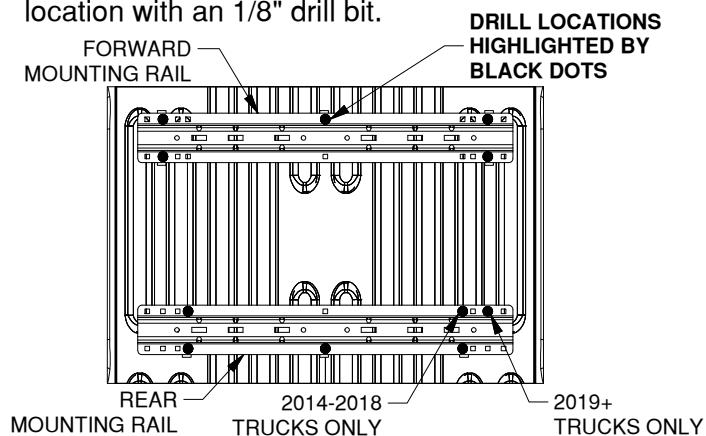

Figure A3: Detail view over bed, showing drill locations for the forward and rear mounting rails.
- Mark hole locations.** While carefully ensuring the mounting rail does not move, use a center punch tool to mark the 5 drill locations on the forward rail. See Figure A3 for hole marking locations for this installation (rear rails will install on a later step). Once all 5 forward rail locations are clearly marked, move the mounting rail out of the way and drill each location with an 1/8" drill bit.
2. **Drill rear rail mounting holes.** Using the same method as used for the forward mounting rail, mark and drill the 1/8" holes for the rear mounting rail. Refer to "DRILL FORWARD MOUNTING HOLES" section, Step 2, page 2. Notice that the hole locations are slightly different than the forward rail, see Figure A3 (on the second page).
2. **Drill rear rail mounting holes.** Using the same method as used for the forward mounting rail, mark and drill the 1/8" holes for the rear mounting rail. Refer to "DRILL FORWARD MOUNTING HOLES" section, Step 2, on page 2. Notice that the hole locations are slightly different than the forward rail, see Figure A3 (on the second page).